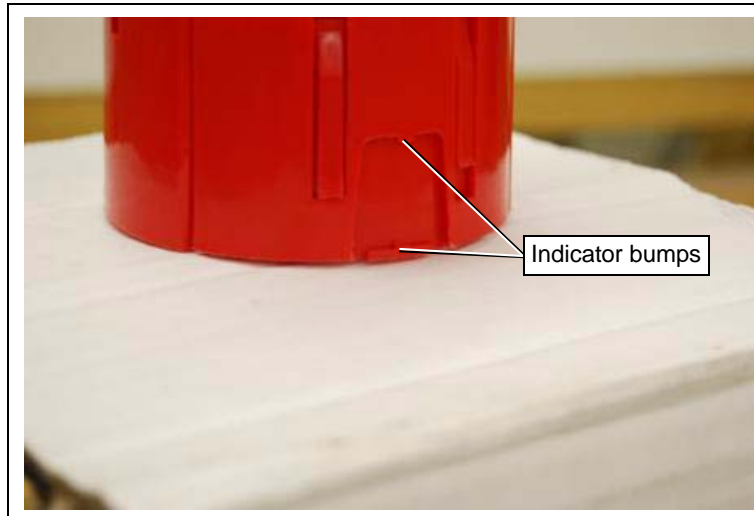

Figure 7F
4. For assembly when no shut off slide is used, the indicator bumps on the top and bottom of the drop tube pieces must be aligned. (See Figure 7F.) Failure to do so will result in feed shifting where the drop tube meets the tube. If the indicator bumps are not aligned, remove the bottom and turn it 180°. Proper alignment can also be found by following the text on the top and bottom drop tube pieces.